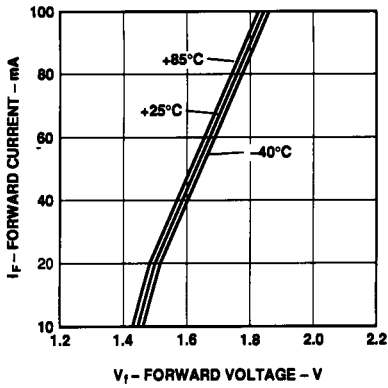

Figure 9. Forward Voltage and Current Characteristics.
*Example for  $I_{FON} = 100 \text{ mA}$ :  $V_F$  can be obtained from Figure 9 (= 1.84 V).*